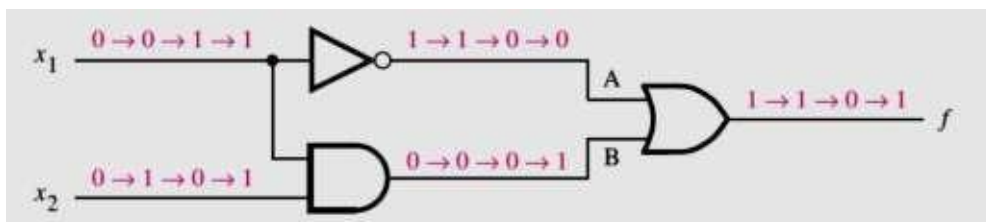
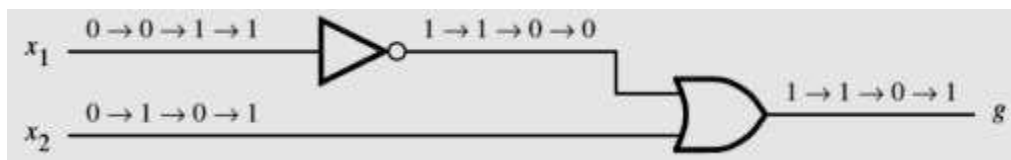

Figure 1.6. functional behavior of the network
Figure 1.9
- To determine the functional behavior of the network in Fig. 1.6, we can consider what happens if we apply all possible values to input signals x_1 and x_2 . The analysis of these input values at various intermediate points is shown in Fig. 1.7.
- Going through the same analysis procedure, we find that the output 'g' in Fig. 1.9, changes in exactly the same way as f does in Fig. 1.6.